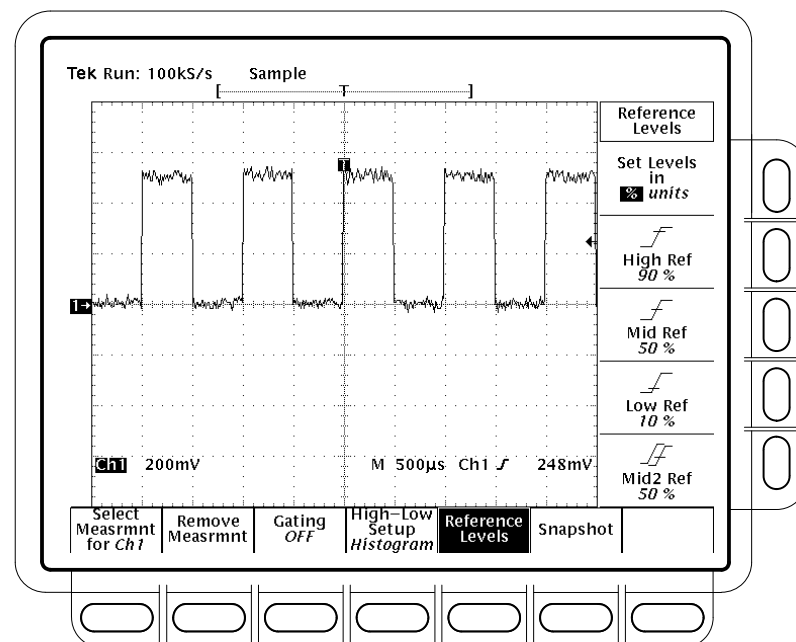

Figure 3–51: Measure Menu — Reference Levels
1. Press **MEASURE** → **Reference Levels** (main) → **Set Levels** (side) to choose whether the References are set in % relative to High (100%) and Low (0%) or set explicitly in the units of the selected waveform (typically volts). See Figure 3–51. Use the general purpose knob or keypad to enter the values.